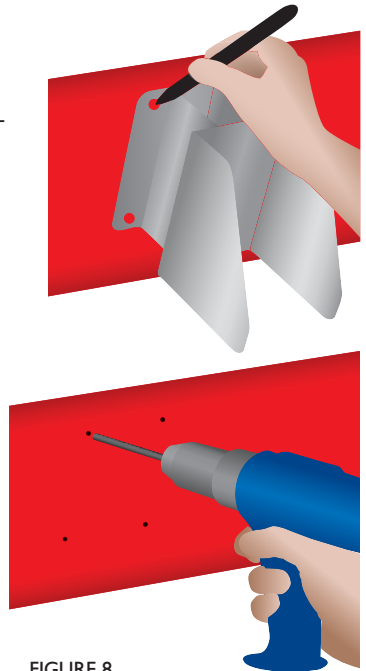

FIGURE 8
- 1.** Position the mounting bracket in your selected location and mark the mounting holes. (Figure 8)
- 2.** If using provided mounting hardware, use your $\frac{5}{16}$ " drill bit and carefully drill the marked holes ensuring the drill is perpendicular to the transom. (Figure 8)
- 3.** Apply a $\frac{1}{8}$ " bead of 3M 5200 Marine Adhesive Sealant around each of the (4) drilled holes; as well as the perimeter of the Mounting Bracket (staying approximately $\frac{1}{2}$ " from the outside edge.)